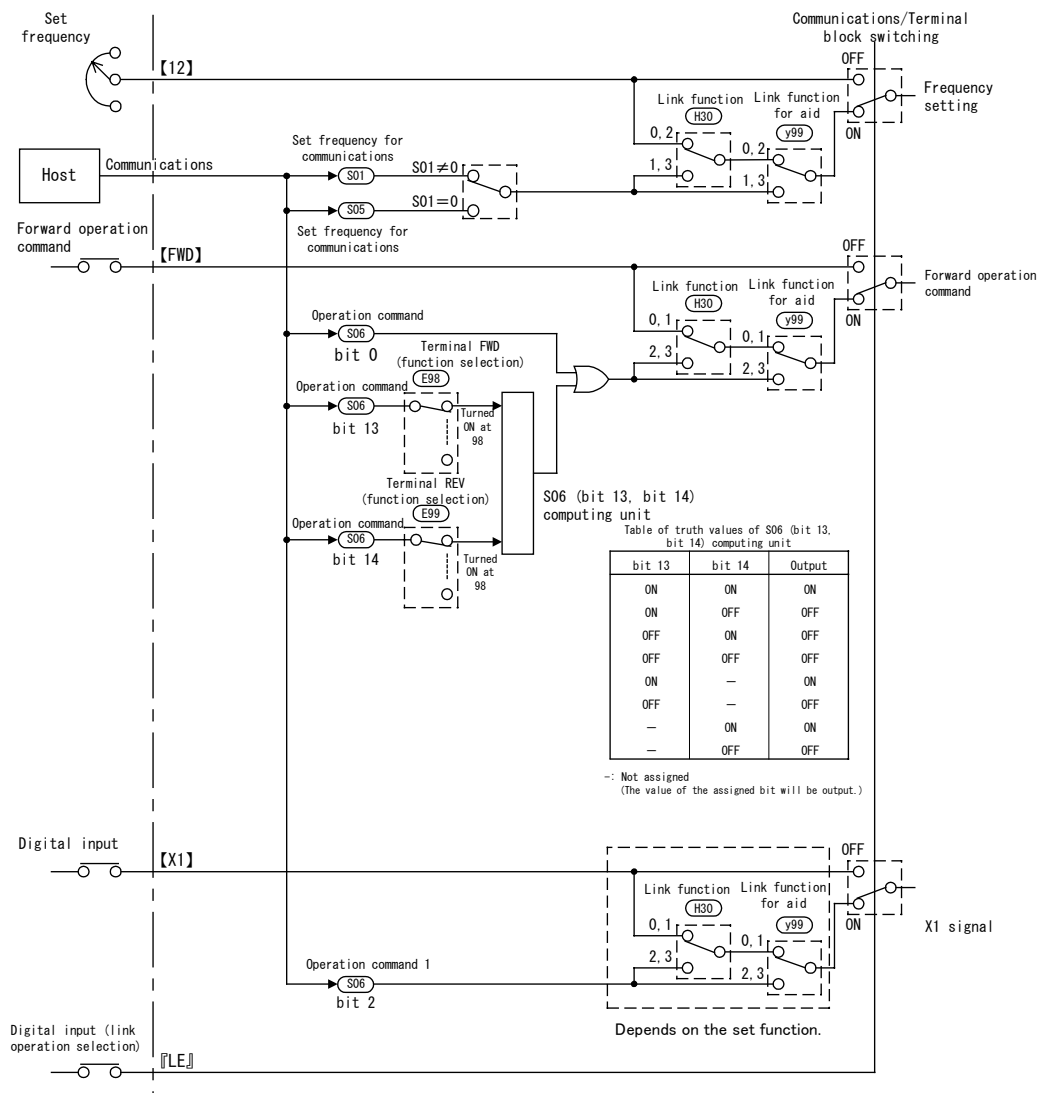

Figure 2.9 Operation command block diagram via communications
Figure 2.9 below shows a block diagram via communications for frequency setting and operation commands.
Even if digital input is set to link enable (LE), when the link becomes invalid ("LE" = OFF), the command system switches from communications to other settings including digital input signal. In short, the frequency setting, forward operation command, and X1 signal in Figure 2.9 switch from communications dedicated function codes S01, S05, and S06 to terminals [12], [FWD], and [X1], respectively.